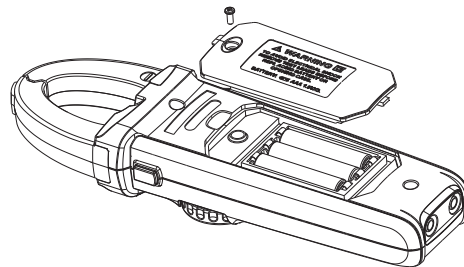

Figure 11
X. Maintenance and Repair (See Figure 11)